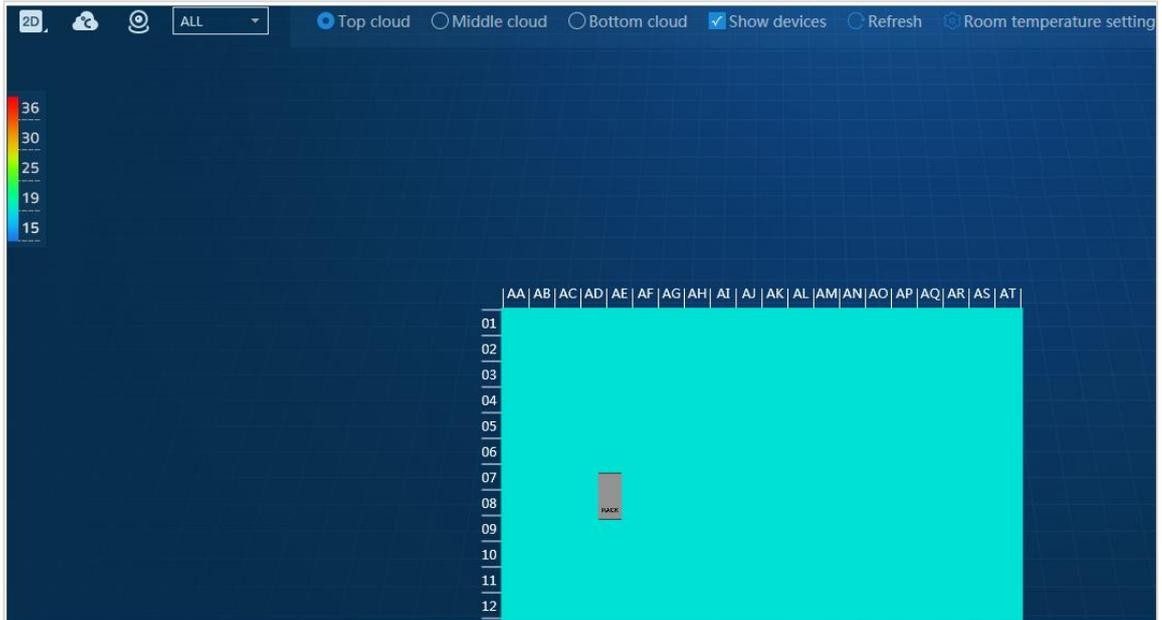

Figure 4-1 Temperature Nephogram of 2D view
- In the 2D or 2.5D view, click  on the toolbar. The temperature map of the equipment room is displayed, as shown in Figure 4-1. You can move the pointer to a device or sensor to view the current temperature and location information. Click the up arrow in the lower part of the page to view the top 5 temperature data of the temperature cloud sensor.